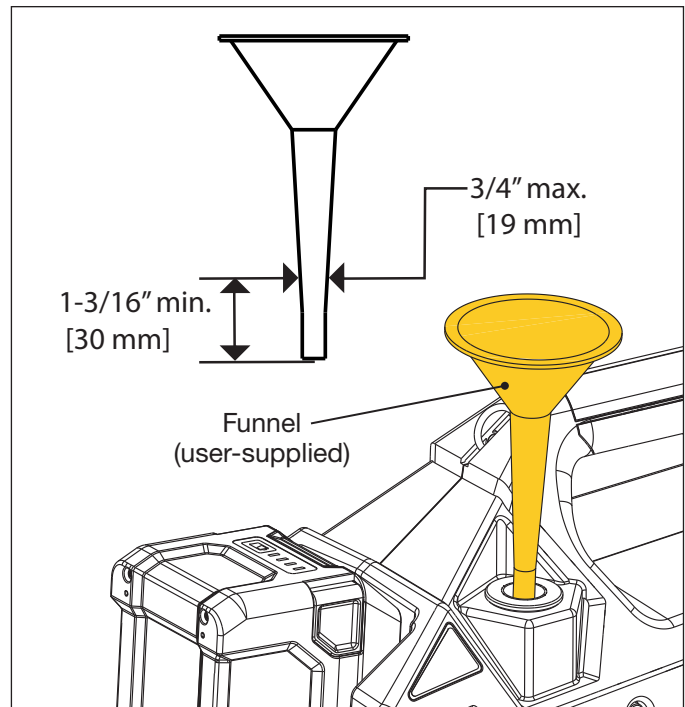

Figure 13: Adding Oil Using Funnel
5. Place a funnel (maximum 3/4" [19 mm] stem outer diameter & at least 1-3/16" [30 mm] long) through the fill opening and insert it into the oil fill tube. See Figure 13.